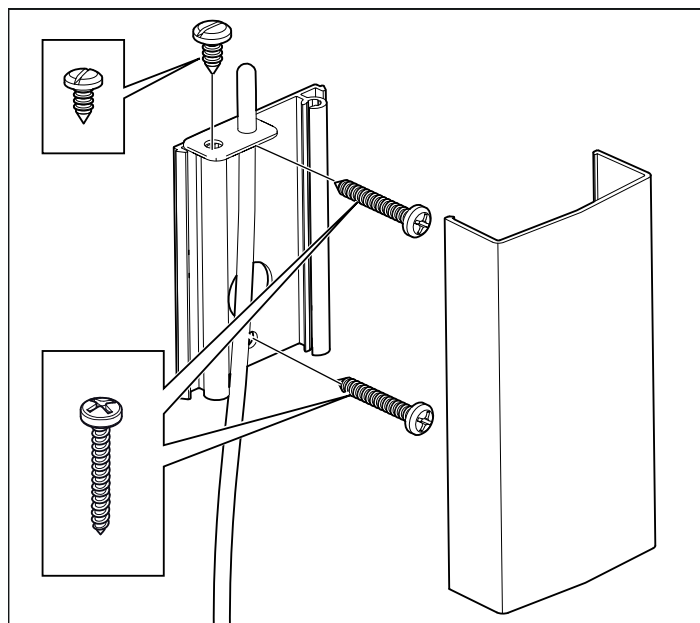
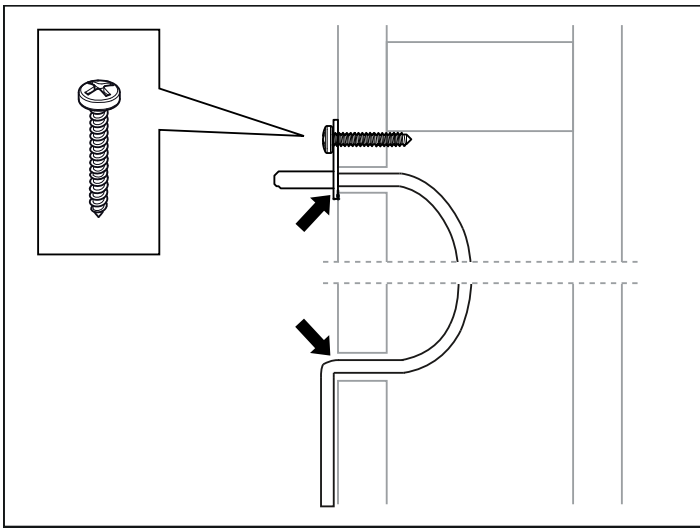

Figure 14: Installing the sensor
Figure 15: Seal any holes
13. Install the sensor on the wall see Fig 14. The thermistor wire may also be passed through the wall. Seal any holes in the wall behind the sensor, see Figure 15, page 11. The thermistor wire may be extended outside the sauna using low voltage wire (2-lead).